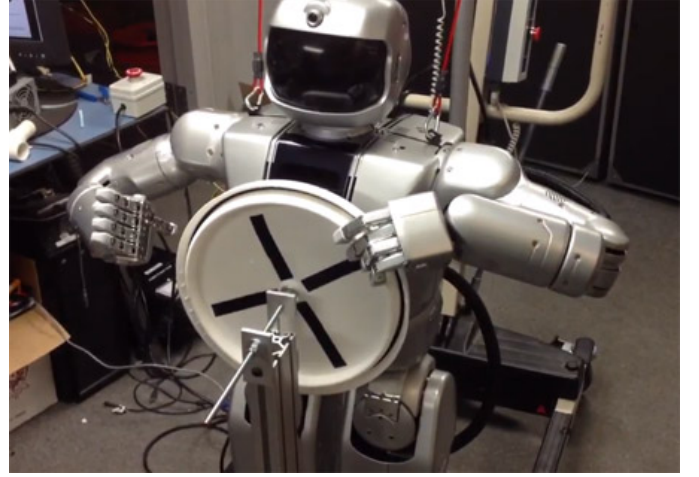

Fig. 2. Hubo running PHC turning a valve using trajectories created using Bi-RRTs.
Hubo2 Plus is a 130 cm (4' 3") tall, 42 kg (93 lb) full-size humanoid robot commonly referred to as Hubo, see Fig. 2. It was designed and constructed by Prof Jun-Ho Oh at the Hubo Lab in the Korean Advanced Institute of Science and Technology (KAIST)[1]. Hubo is anthropomorphic to a human meaning it has 2 arms, 2 legs and a head. There are 6 degrees of freedom (DOF) in each leg, 6 in each arm, 5 in each hand, 3 in the neck, and 1 in the waist; all totalling 38 DOF. All joints of the major joints are high gain PD position controlled with the exception of the fingers. The fingers are open-loop PWM controlled. The sensing capability consists of a three axis force-torque (FT) sensor on each leg between the end of the ankle and the foot as well as between where the arm connects to the hand. Additionally it has an inertial measurement unit (IMU) at the center of mass and accelerometers on each foot. The reference commands for all of the joints are sent from the primary control computer (x86) to the individual motor controllers via two Controller Area Network (CAN) buses. There are currently eight Hubo's functioning in the United States as of December 2012. Four reside at Drexel University and one at Georgia Tech, Purdue, Ohio State and MIT. Jaemi Hubo is the oldest of the Hubos in America and has been at the Drexel Autonomous Systems Lab¹ (DASL) since 2008[2].